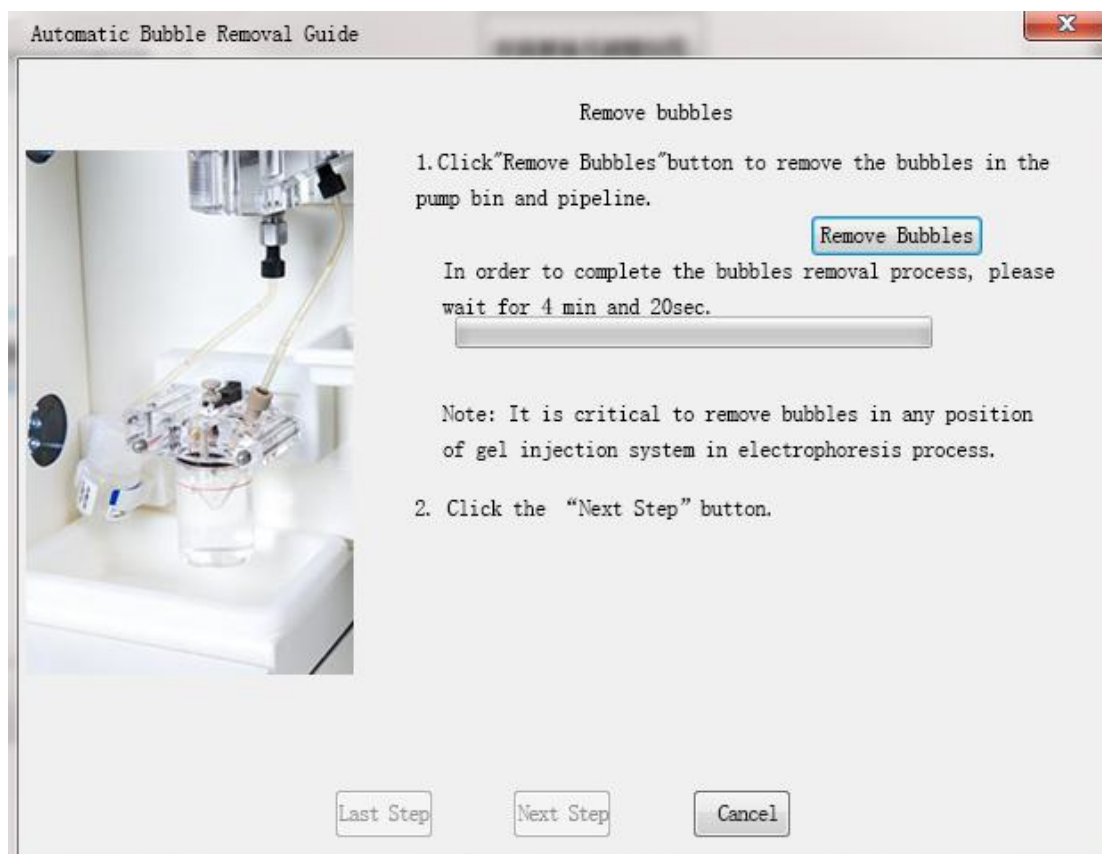

Figure 13. Automatic Bubble Removal
(2) Remove the bubbles in the pump bin and pipeline according to the prompts of dialog box of "Automatic Bubble Removal Guide"; After confirming that all the bubbles have been removed, click the "Complete" button. As shown in Figure 13.